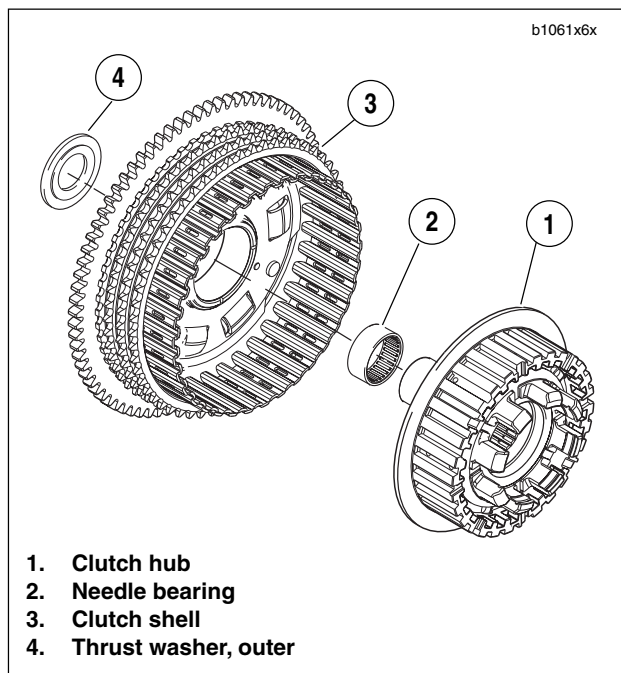
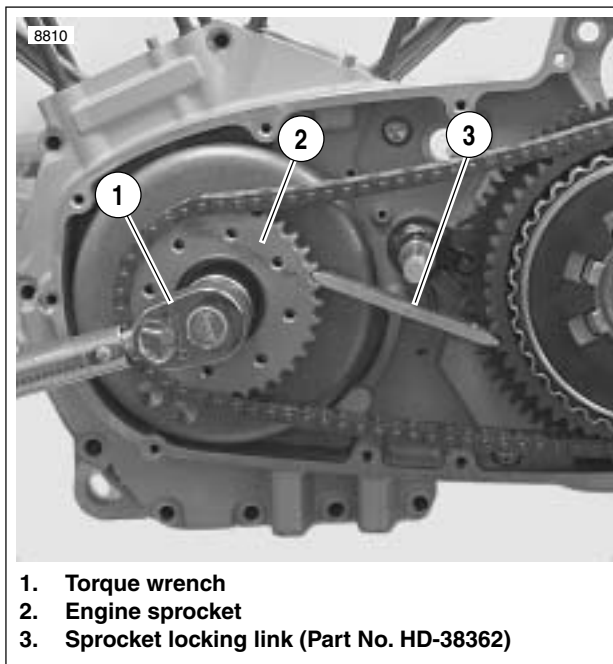

Figure 6-33. Clutch Hub and Shell Assembly
Figure 6-34. Sprocket Locking Link
1. See Figure 6-33. Assemble clutch hub (1) and shell (3) by sliding inboard end of clutch hub into shell bearing (2) by hand. No tools are required.
3. Verify that outer thrust washer (4) is installed on transmission shaft.
5. See Figure 6-34. Install the engine sprocket nut.